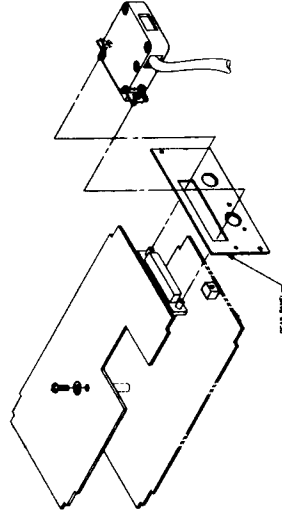

FIGURE 2-2. ATTACHING BCD MATING CONNECTOR
- b. Remove plastic lens (5) from bezel (3) by carefully prying on one side of lens with a small knife, then pulling lens out from side.
- c. Loosen panel mounting clamps (11) and slide instrument out from panel cutout.
- d. Remove grounding screw (8) and two attaching screws (9) from rear panel (4).
- e. Remove rear panel from case (2).
- f. Remove four screws (10) attaching front panel assembly to case.
- g. Remove front panel and main board (1) from case by sliding entire assembly outward.
l. Reassembly is reverse of removal. Replace rear panel with panel supplied with option board. Figure 2-2 shows how BCD mating connector is fastened to option board.